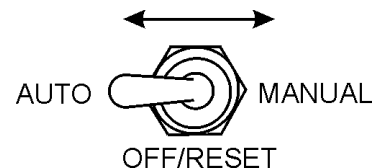

Figure 53. Off/Manual Auto Switch (AUTO)
4. Place the Off/Manual/Auto switch (Figure 53) on the MPEC unit to the **AUTO** position.